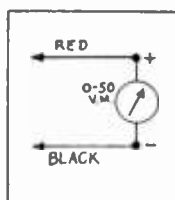
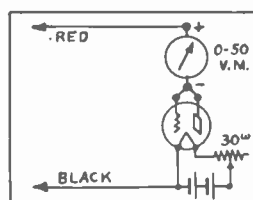

FIG. 98
FIG. 99
Assemble the test prods to the voltmeter as shown in Fig. 98.
2. Hold the test prods of Fig. 98 on terminals 1 and 2 of the potentiometer. Rotate the potentiometer dial from 0 toward 100 but restrict this rotation preferably between 0 and 40 in order to prevent overloading the meter. Note the deflection on the meter, whether up-scale or down-scale. Reverse the test prods on terminals 1 and 2 and again note the deflection on the meter.
Apparatus Assembly: Change the connections used in Fig. 98 so you have the meter connected to the vacuum tube as shown in Fig. 99.
Observations: 1 and 2. When D.C. is applied to the test prods in Fig. 99, by holding them on terminals 1 and 2, then you will get *no deflection* if the *red* test prod is connected to the *negative* terminal of the potentiometer. This action is caused by the fact that the vacuum tube has the peculiarity of letting a current flow only when the *red* test prod is connected to the *positive* terminal of a voltage source. Therefore, a deflection is obtained only when the proper polarity is applied by reversing the test prods.